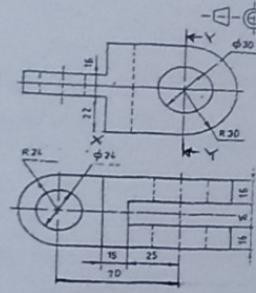

Figure 2
- Copy the views in Figure 2 and draw section Y-Y